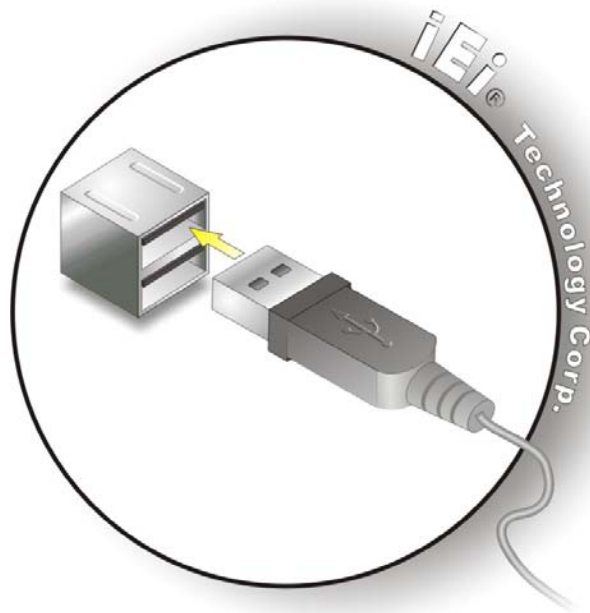

Figure 3-44: USB Device Connection
Step 2: Align the connectors. Align the USB device connector with one of the connectors on the bottom panel. See **Figure 3-44**.